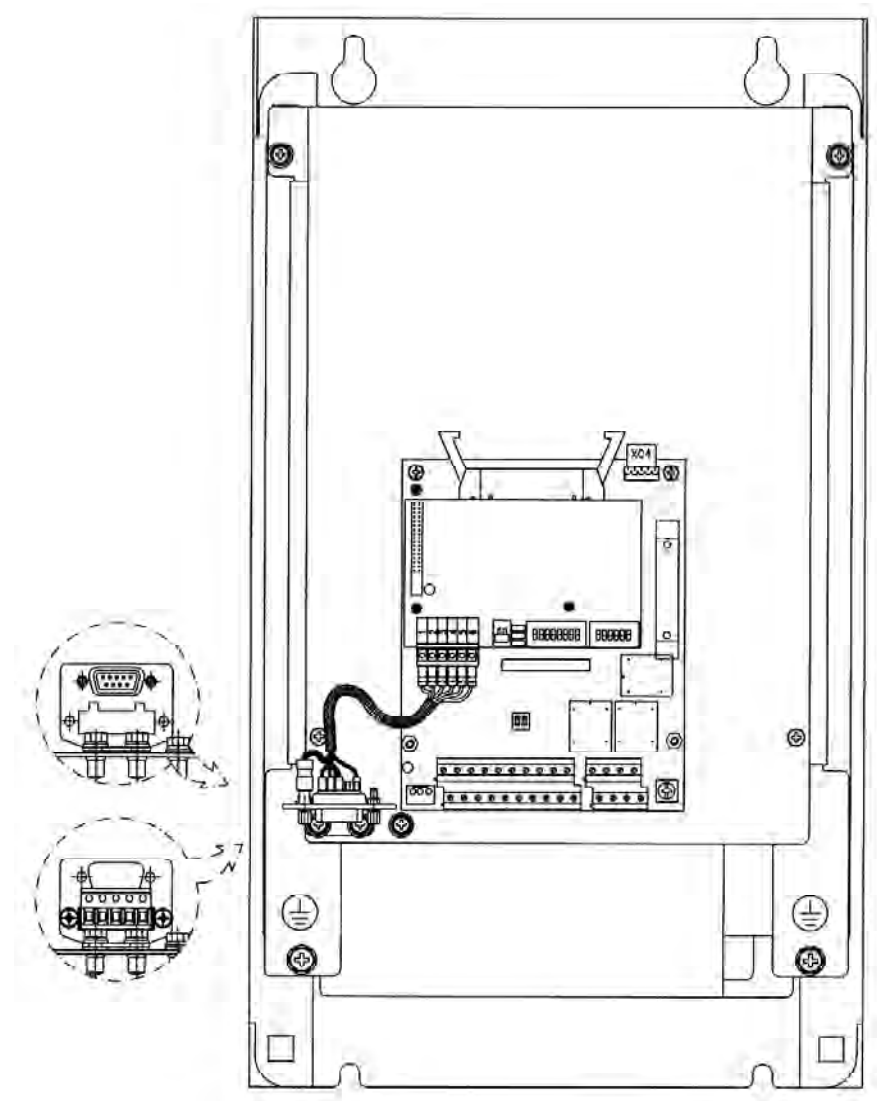

Figure 8.37 - Fastening of the Fieldbus connector
- Fasten the set to the metallic support plate of the control board (refer to figure 8.37).